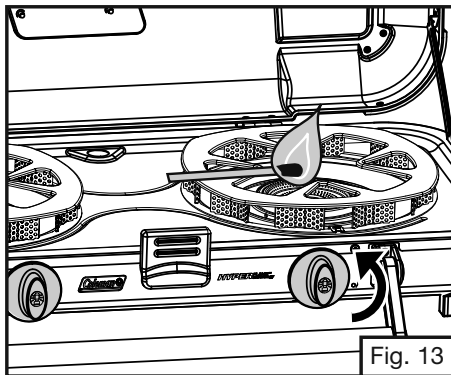

Fig. 13
2. Hold lighted match near burner and open burner valve. (Fig. 13)